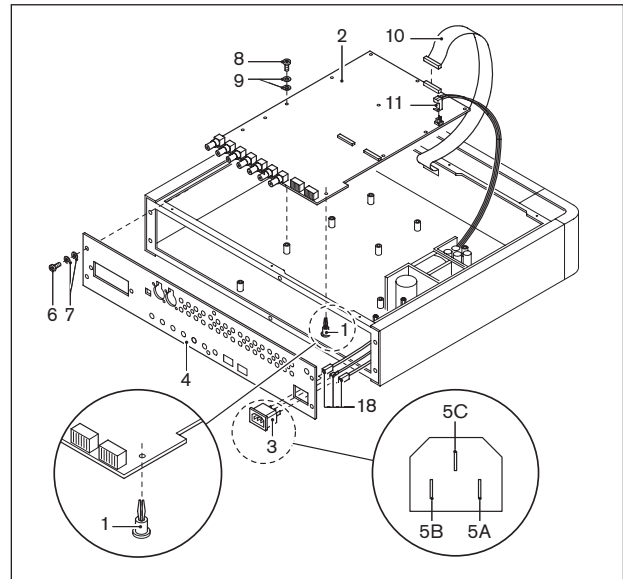

Figure 2.9 Installation of the INT-TXK (steps 1 - 6)
Follow the instructions below to install the INT-TXK. The numbers refer to figures 2.9 and 2.10.
1. If the LBB4502/xx transmitter is missing a stud to mount the new main PCB (2) of the INT-TXK, paste the glue stud (1) from the upgrade kit to the bottom of the transmitter. See inset in figure 2.9 for the recommended pasting position.
2. Click the mains socket (3) in position in the new rear panel (4).
3. Fit the connectors (5) of the mains inlet wires (5A – brown, 5B – blue) and the earth wire (5C) on the pins of the mains socket.
Warning: Pay attention to the correct position of the mains inlet wires. See inset in figure 2.9.